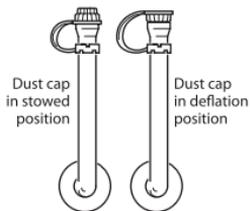

Fig. 1d
- 4) Check that the oral-inflation dust cap is properly in the stowed position (Fig. 1d)
To deflate the buoyancy cell, reverse the oral-inflation tube dust cap and insert it into the valve or depress valve with fingertip. The dust cap will not lock in the deflate position so it is necessary to hold it in place (Fig.5). Gently squeeze the cell until all air or gas has been expelled. Put the inflation tube dust cap back in its normal position on the oral inflation tube (Fig.1d).
Before repacking, completely deflate the inflation cell. Force excess air out through the inflation tube (Fig. 5). Do not wring cell. Put the inflation tube cap back in the normal stowed position (Fig. 1d).